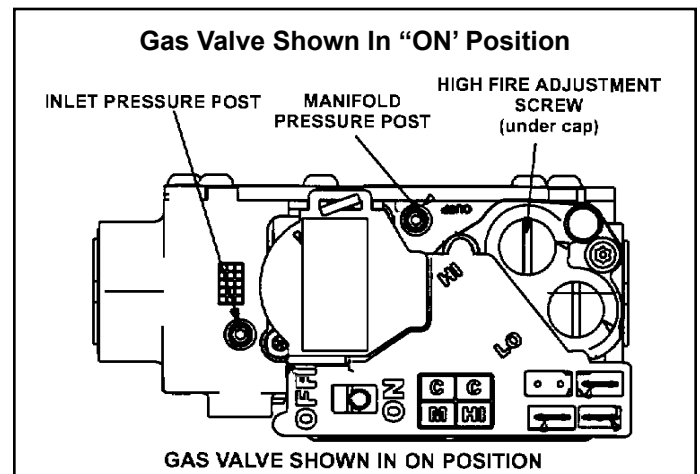

Figure 66.
6. Move gas valve switch to OFF. See Figure 66.
8. Move gas valve switch to ON. See Figure 66.
- A manifold post located on the gas valve provides access to the manifold pressure. See Figure 66. Back out the 3/32 Hex screw one turn, connect a piece of 5/16" tubing and connect to a manometer to measure manifold pressure.